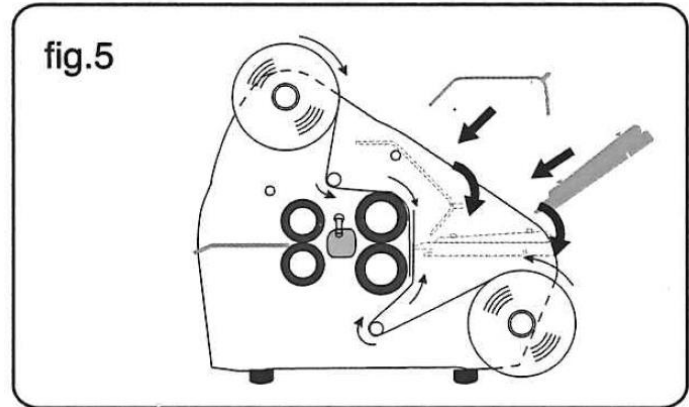

fig.6
(2) Set Safety Cover and Front Guide Plate. (fig.6)
(3) Using Film Setting Board, put film between Heat Rollers.